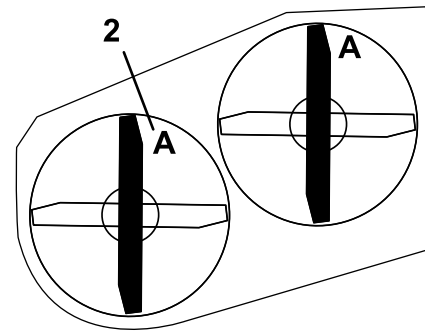
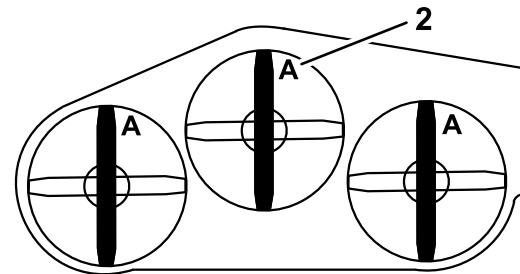

Figure 55
Figure 56
14. The right blade at the front position (Figure 55 or Figure 56) needs to be the same height as the left blade at the front position.
3. Rotate the blades until the ends face forward and backward (Figure 55 or Figure 56). Measure from a level surface to the cutting edge at position **A**, of the blades (Figure 55 or Figure 56). Note this dimension.